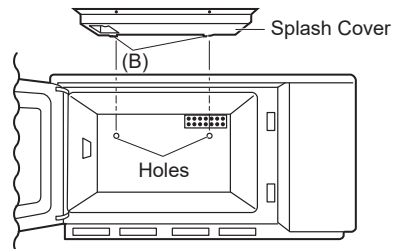

Fig. 2
1. Insert two projections of the cover (B) into the holes of the oven cavity backplate as shown in Fig. 2.